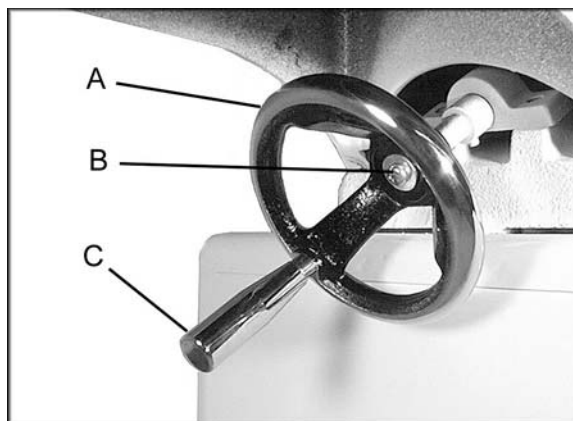
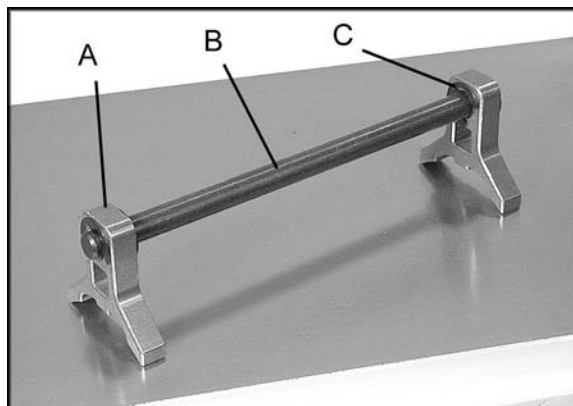

Figure 4
Figure 5
2. Press handwheel (A, Fig. 4) onto shaft, aligning the keyway with the key. If necessary, use a hammer with a block of wood to tap the handwheel completely onto the shaft.
3. Re-install screw and washer (B, Fig. 4).
4. Mount handle (C, Fig. 4) onto handwheel.
Place the two bases (A, Fig. 5) onto each end of the bar (B, Fig. 5). Snap the four E-rings (C, Fig. 4) into the grooves on the bar as shown, one E-ring on each side of a base.